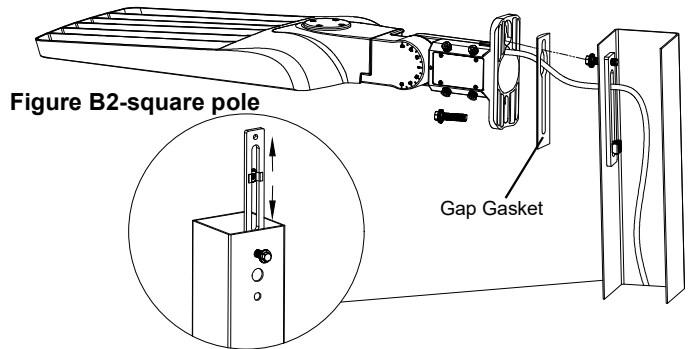

Figure B2-square pole
- If mounting to square pole, place Gasket between the pole and arm to fill gap. See Figure B2.
- If mounting to square pole, place gasket between the pole and arm to fill gap. See Figure B2.
- If mounting to square pole, place Gap Gasket between the pole and arm to fill gap. See Figure B2.